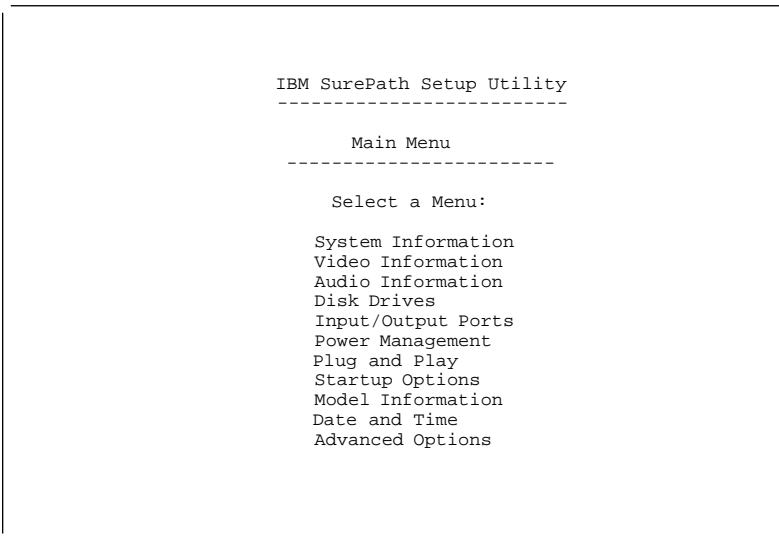

Figure 1-1. Setup Utility Screen
- If you have an error, the computer shows a popup window with an error code and description. Press **Enter** to get the Setup Utility screen (see Figure 1-1 on page 1-20).